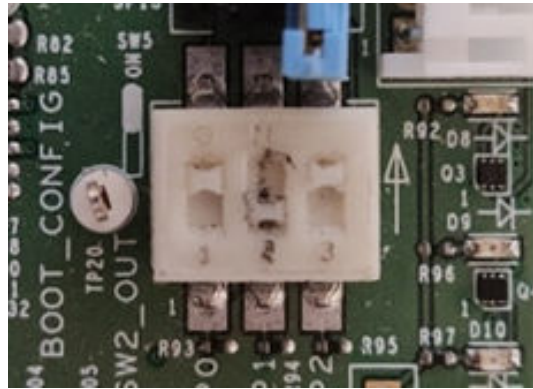

Figure 14. Setting SW5 to 1-ON, 2-OFF, 3-ON
- Switch the RT685-EVK board to FlexSPI Port B boot mode by setting SW5 to 1-ON, 2-OFF, 3-ON, as shown in Figure 14.